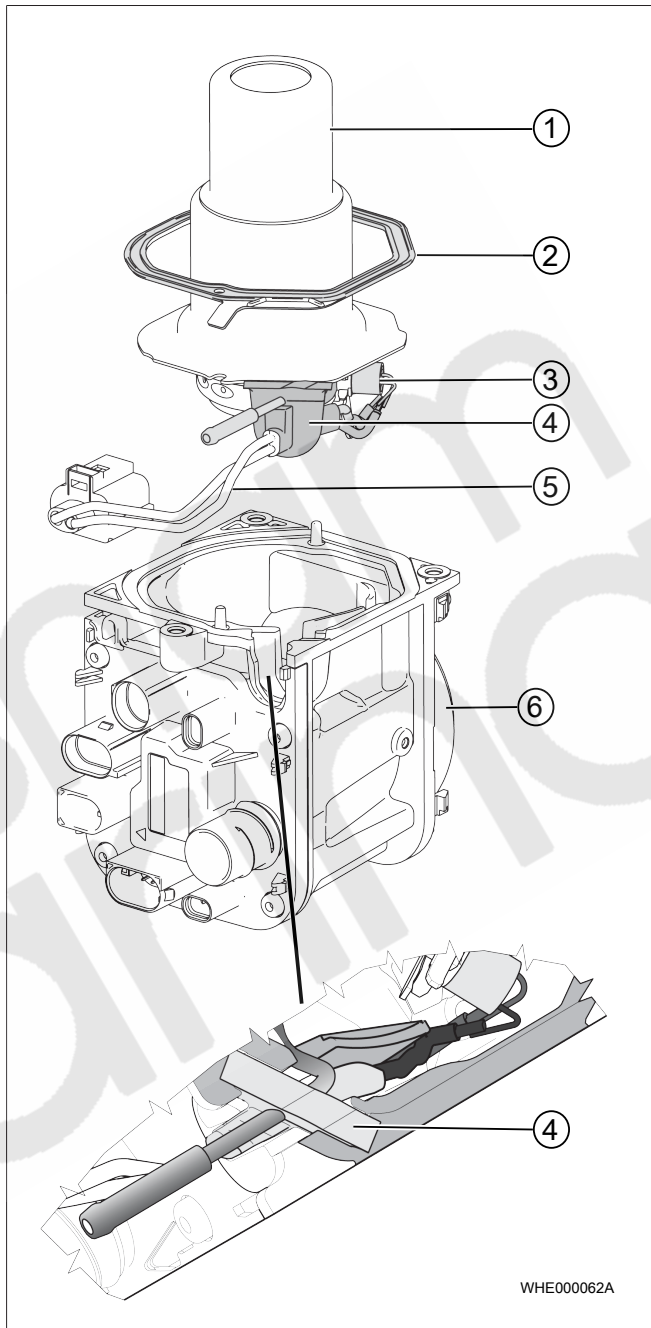

Fig. 13
- ▶ Remove the seal (item 2, Fig. 13).
- ▶ Push the glow plug bush (item 4) out of the combustion air fan unit with slight pressure on the fuel pipe and lift up the burner unit vertically.
When assembling the burner unit, route the cable so that it lies in the cutout of the combustion air fan unit (item 6, Fig. 13).